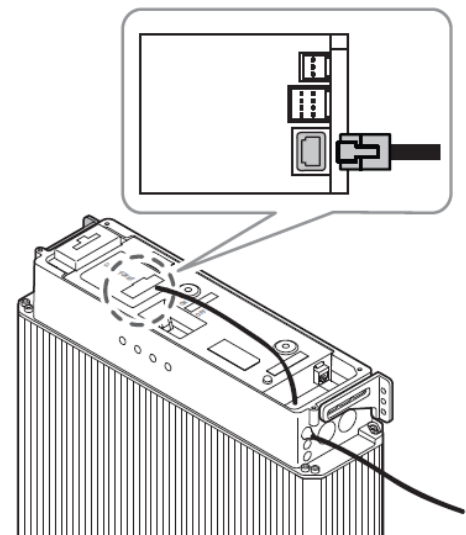

Figure 2 Insert RJ45 plug into battery port
Step 1 Insert the RJ45 plug into the battery port until it makes a clicking sound (Figure 2).